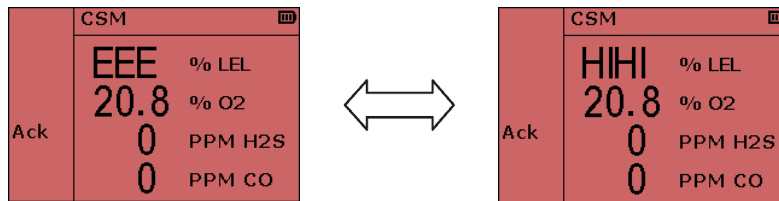

Figure 52: Over-range in CSM
- In Confined Space Monitor (CSM) mode if the LEL sensor is exposed to gas above 100% LEL, EEE will alternate with the HIHI alarm flag (as shown in Figure 52: Over-range in CSM).